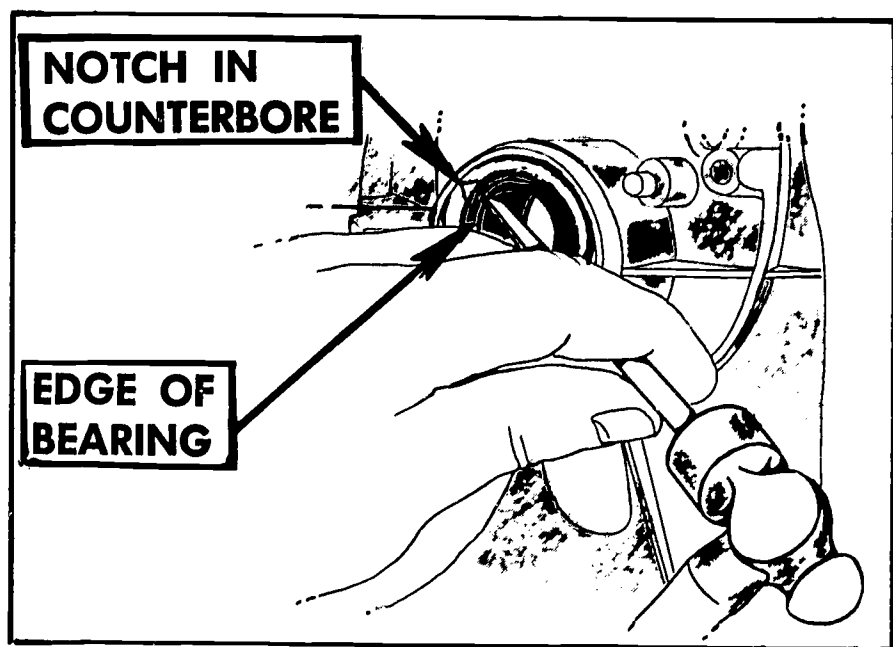

FIGURE 317. Staking (keying) the counterbore for anchoring the new bearing insert, in an aluminum crankcase.
6. *Make a notch on the outer edge of a counterbore at the point marked (Figure 317).*